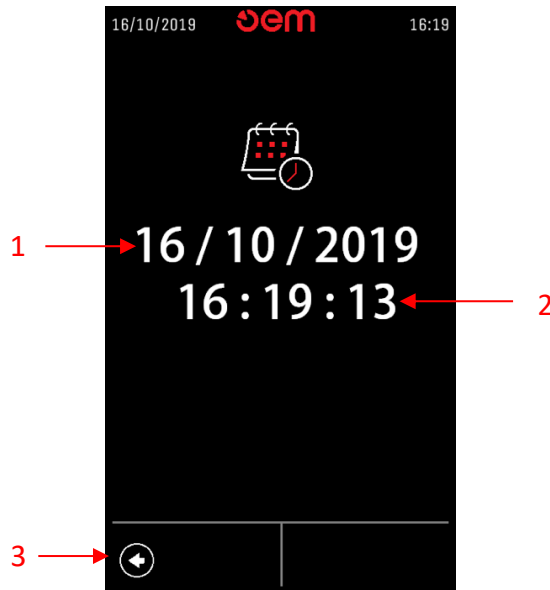

Fig.9
6.3.8 Calendar (Fig. 9)
1. DATE (Fig. 9 – Pos. 1).
2. TIME (Fig. 9 – Pos. 2).
To change the date and time, click on the corresponding value and change it using the "+" and "-" buttons. Once the Date and Time have been changed, press the Back button (Fig. 9 – Pos. 3).